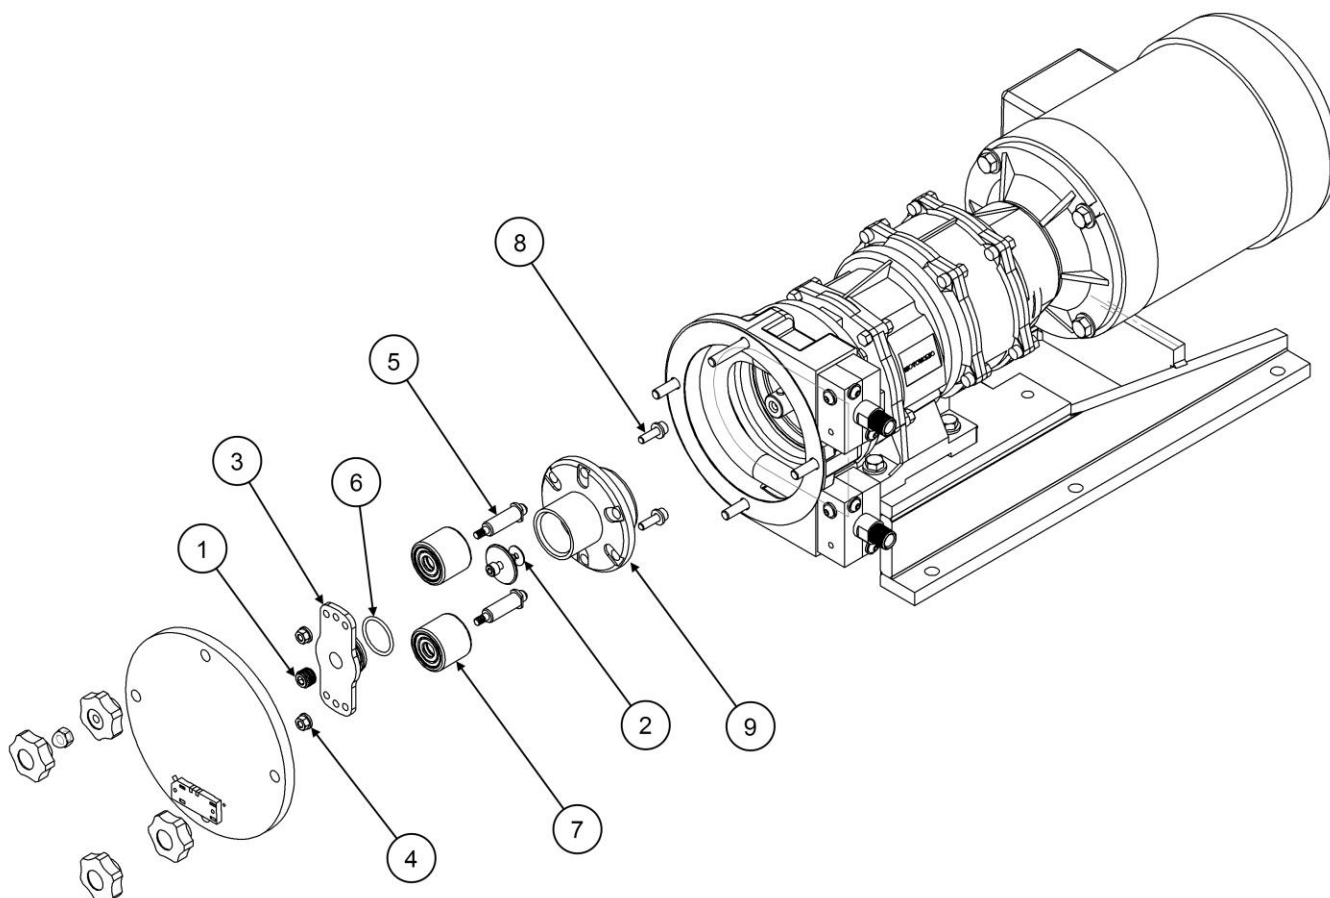

Figure 5 - CT10-19 Compression Setting
4. Refer to Figure 5 for item identification. Remove the front cover knobs and locking hardware to access the inside of the pump, continuing to follow safety precautions as appropriate.